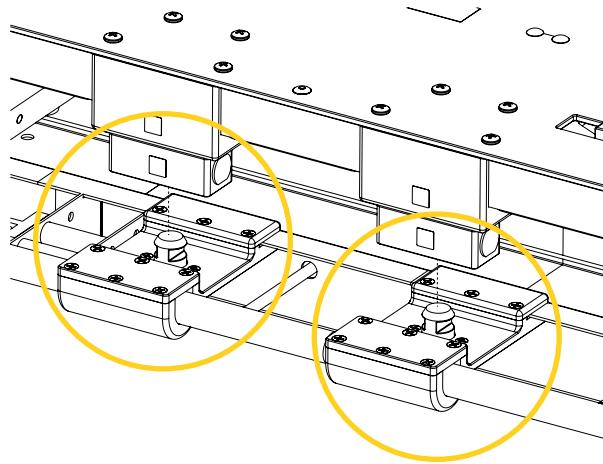

Figure 7: 2-part clamp blocks connected (2 of 4 XClamp - LP illustrated)
4. Press on the mounting solution until all four (4), 2-part clamp blocks lock together (Figure 7).